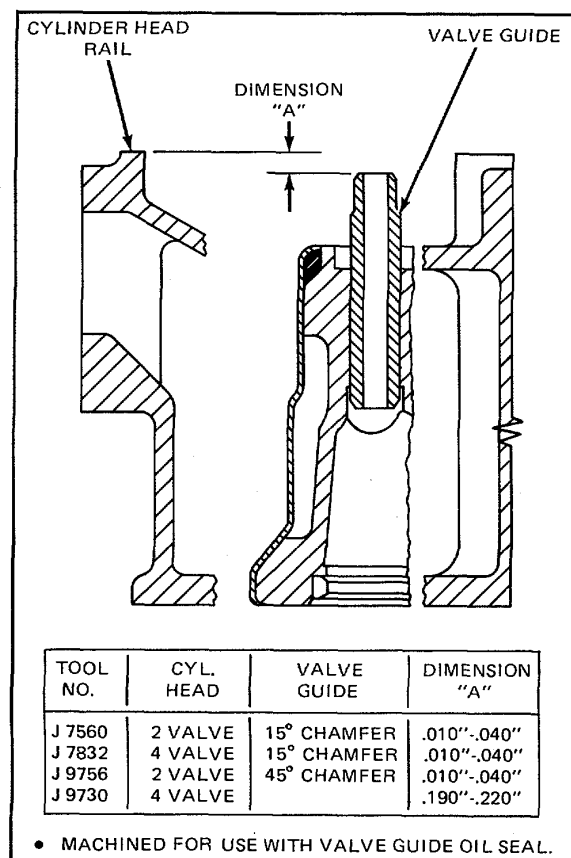

Figure 7. Valve Guide Installing Tools
2. Insert the internally threaded end of the valve guide in the proper valve guide installing tool (refer to the *Valve Guide Installing Tools* chart (Fig. 7)).